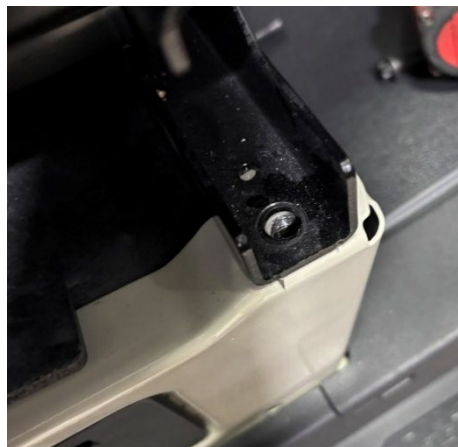

Figure 8
- Drive the four bolts shown below back into the seat using the torque wrench and E12 socket and torque to 29 ft-lbs. See figure 8.